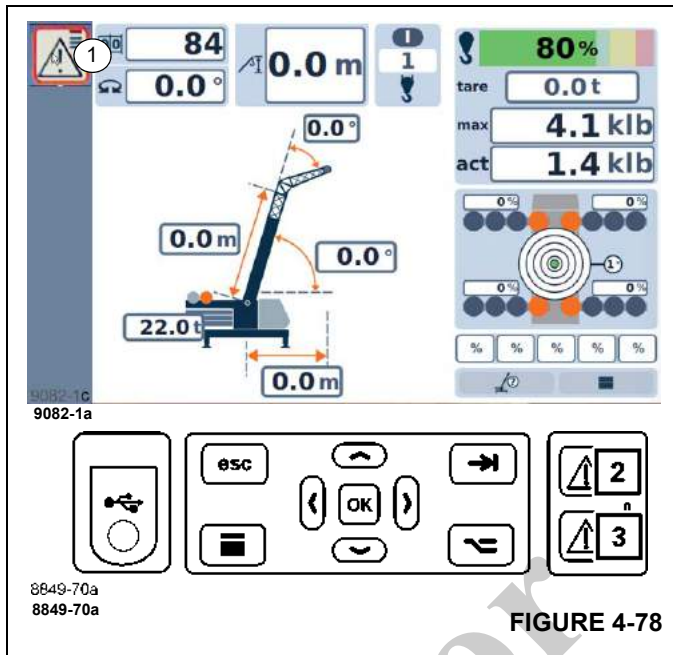

FIGURE 4-78
- The (1), (Figure 4-78) symbol is displayed in the display area.
- Lamps (2) and (3) light up.